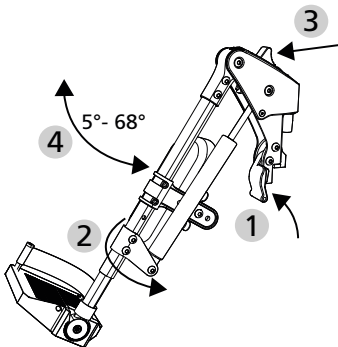

fig. 41
When attaching the leg rest to the wheelchair, proceed in the same way as with a standard leg rest (see the wheelchair user manual). To fold the leg rest, move the locking lever forwards whilst rotating the leg rest to the side (1/2, fig. 41).
1. Press the release lever for the pneumatic spring forwards (3/4, fig. 41). The knee angle falls from 68° to 5° as long as the release lever is kept pressed.
4. Press the release lever forwards and push the leg rest down at the same time to increase the knee angle (fig 41).